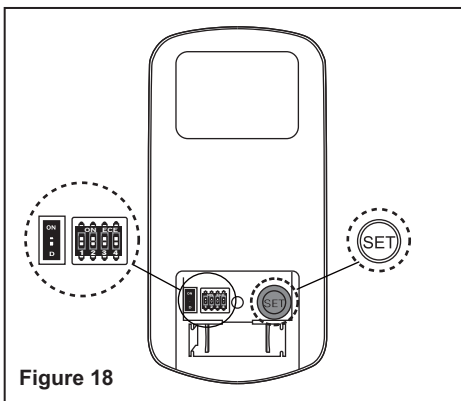

Figure 18
☼ button: Controls light. Switch the “D” and “ON” dip switch on the back of transmitter to decide the light in “ON/OFF” or “Dimmable” condition. (Fig. 18)
a) Select desired frequency from the transmitter. The dip switches can be set to 16 different combinations. (Fig. 18)
b) From the back of the transmitter, with the fan’s power off, restore power to the fan. Press and hold “SET” button for about 5 seconds and release. If optional light kit is installed, the light kit will flash twice and the signal light on the hand held transmitter will come on when the button is pressed. The fan has completed the pairing process with the remote control and is ready for use. (Fig. 18)